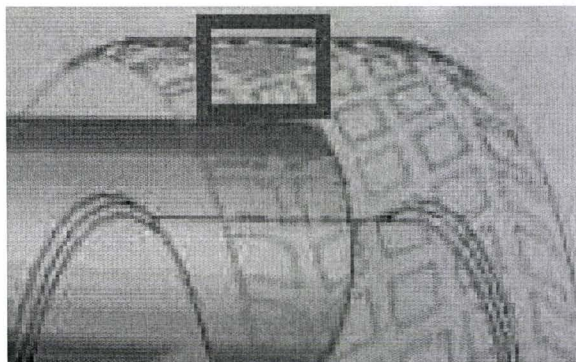

Figure 5
- Rotate the assembly on the spindle until the high point is at 12 o'clock and the Brown dash turns to Green (Figure 5).